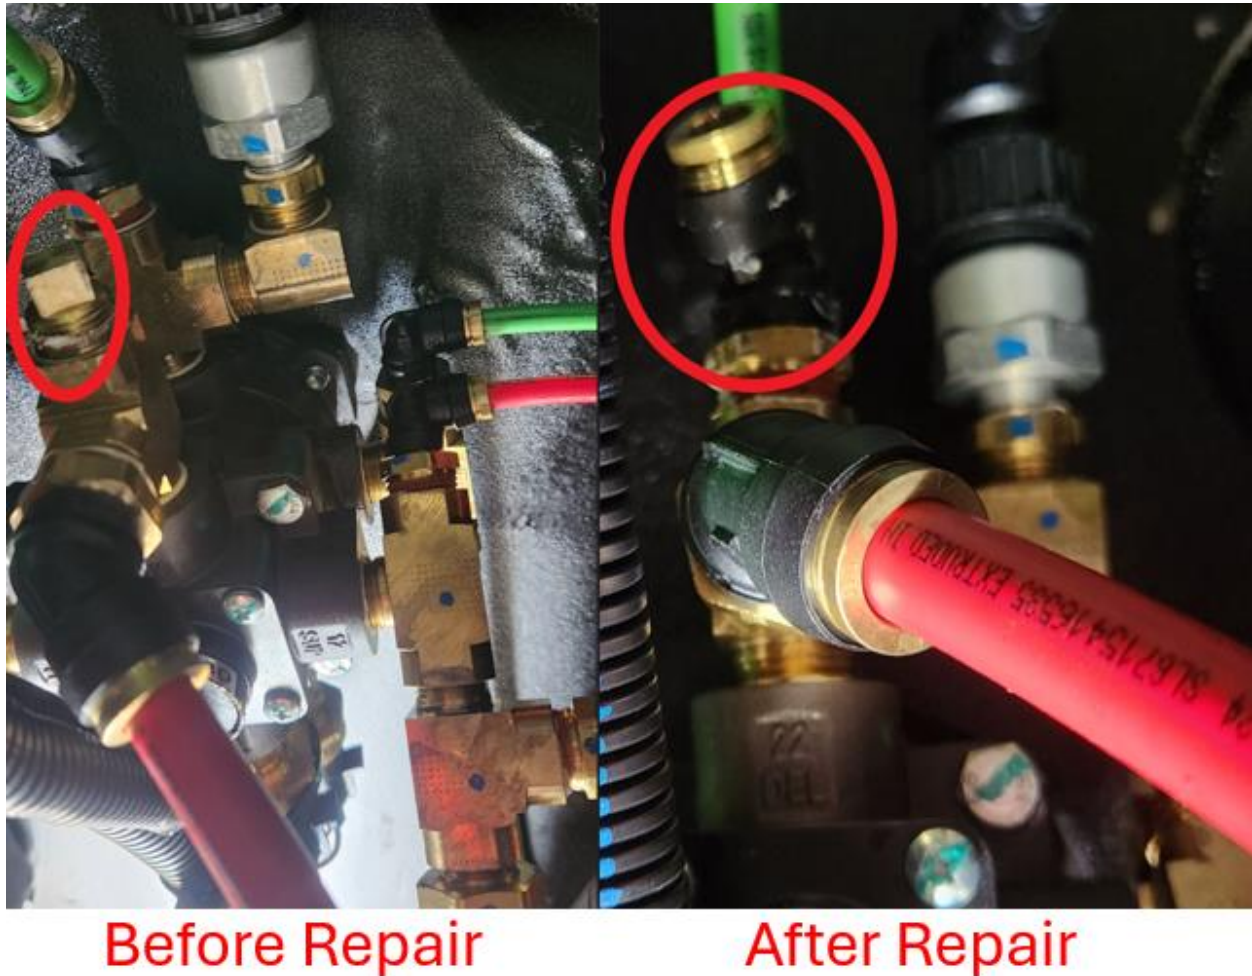

Figure 3.1
4. On the treadle valve in Port 22 (Secondary delivery) there should be a tee with a plug installed. Remove this plug and install a 45° Fitting with a 3/8 NPT and 3/8 hose port. Refer to Figure 3.1